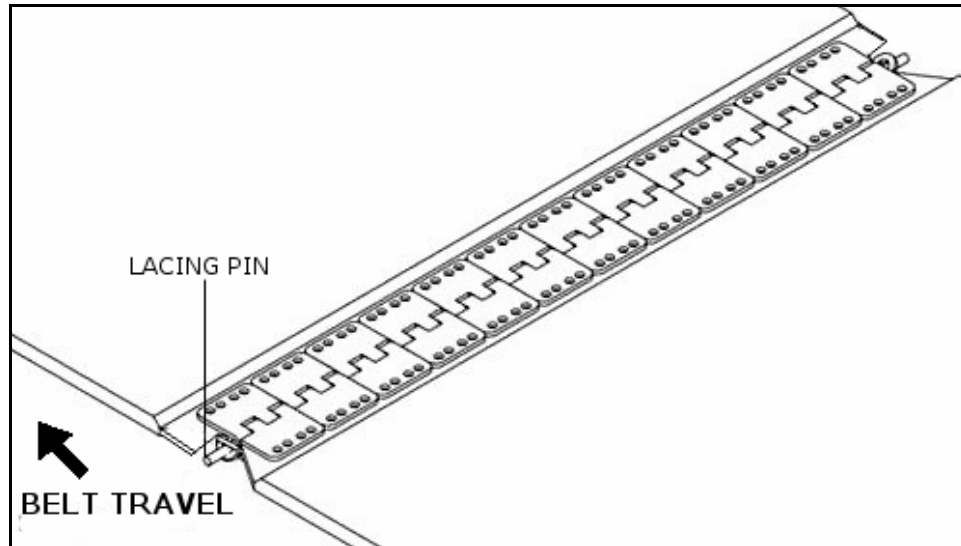

Figure 8.5 Belt Lacing Pin
2. Loosen conveyor belt and remove lacing retainer clip and pin (see Figure 8.5).
5. Remove the lacing pin (see Figure 8.5).
Important: *Ensure that the belt is installed as shown in Figure 8.5. Note the directions of belt travel and square and trimmed edge positions.*
10. Install lacing pin and crimp retainer clips onto each end of the lacing pin (see Figure 8.5).